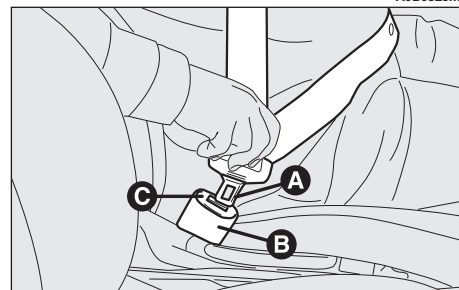

fig. 41
Take hold of the tongue (A-fig. 41) and insert it into the buckle (B), until hearing the locking click.